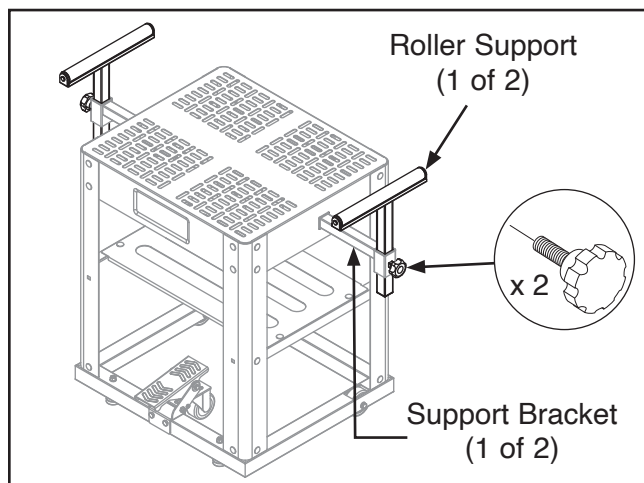

Figure 8. Roller supports installed.
11. Insert roller supports into support brackets (see **Figure 8**) and secure with (2) M8-1.25 x 14 knob bolts.